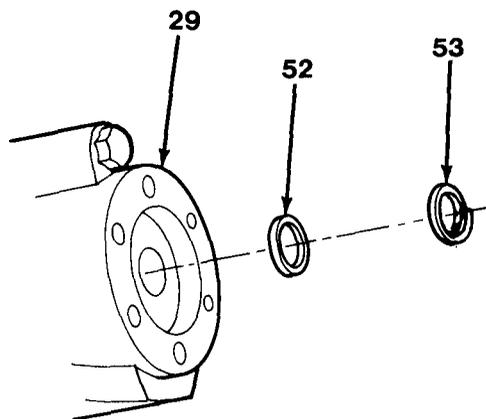

Figure 17-9
14. Remove cup (52) and back-up ring (53) from brake booster valve (29, Figure 17-9) housing.
4. Install cup (52) and back-up ring (53) in brake booster (29, Figure 17-9) housing.